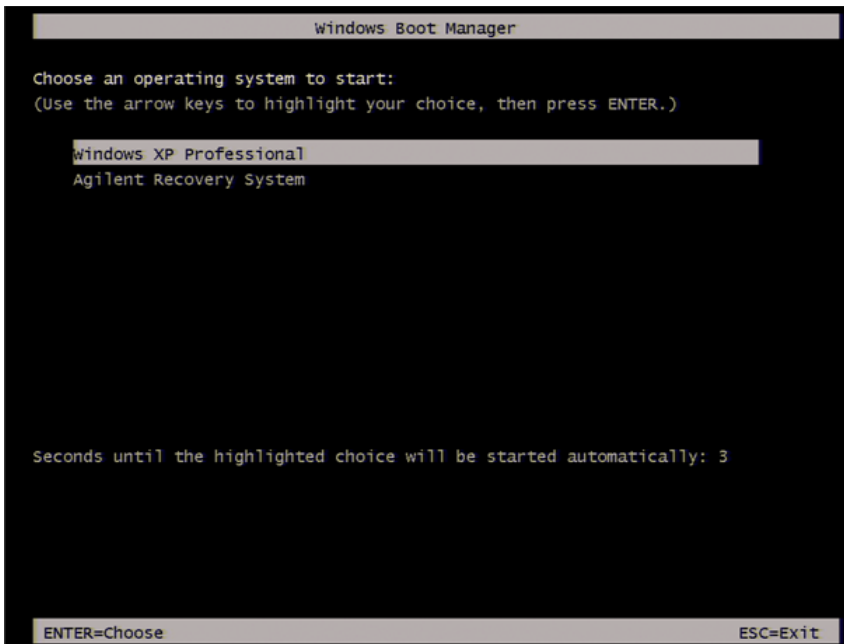

Figure 6 System start up screen in Windows XP Pro for Embedded Systems (1/2)
Step 2. The screen as shown in the Figure 6 appears. Select **Windows XP Professional** and press **[Enter]**.